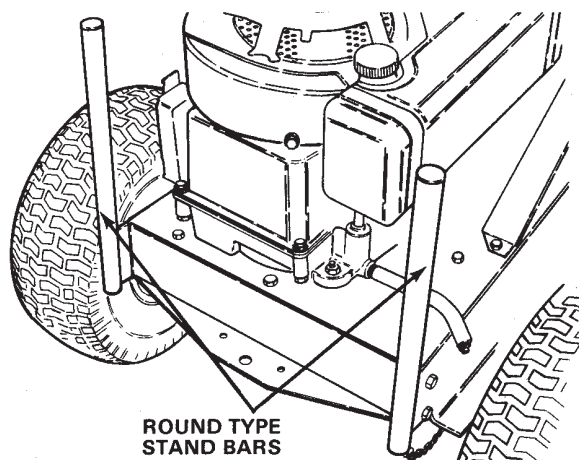

Figure 2
2. If rider is equipped with round type stand bars (Fig. 2), they must be replaced with new ones, Toro Part No. 56-7440 (right-hand) and 56-7450 (left-hand). Stand bars may be purchased from your local authorized Toro dealer.